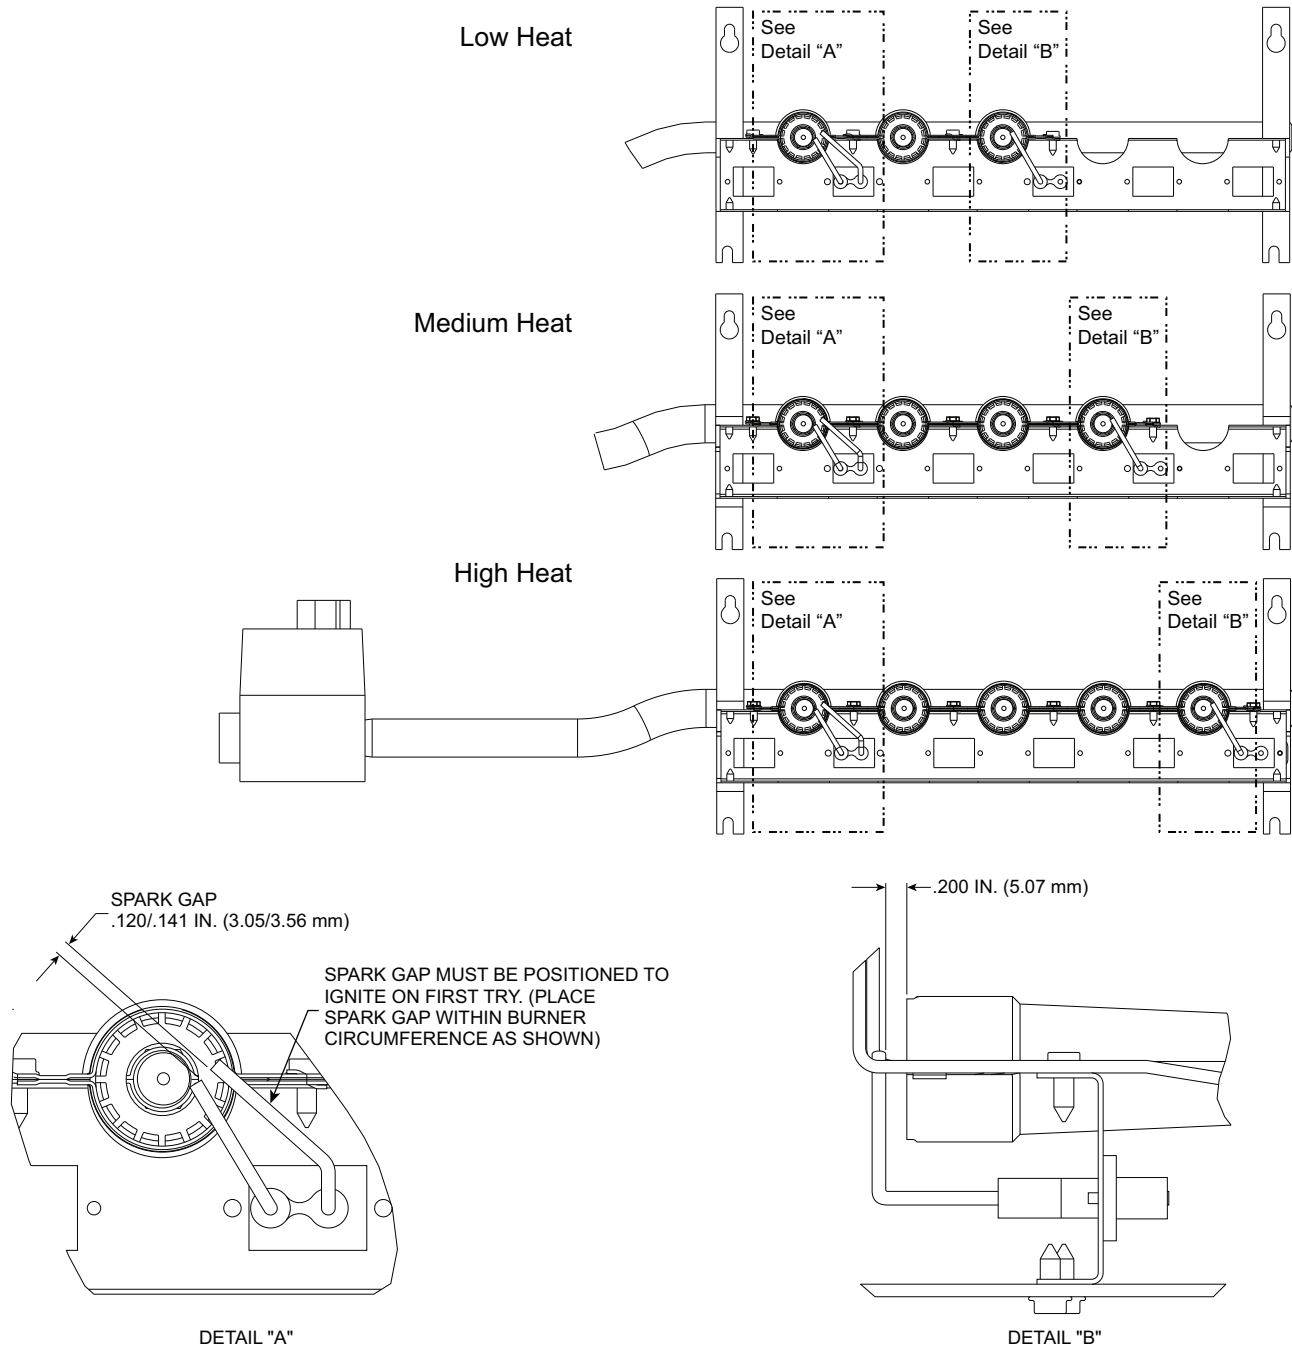

Fig. 58 — Spark Adjustment
4. Adjust spark gap. (See Fig. 58.)